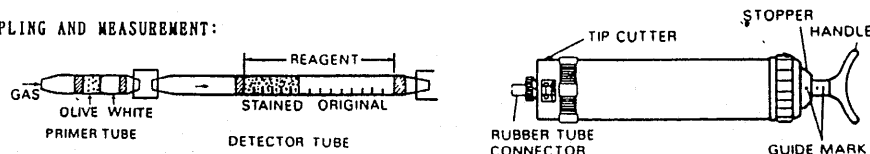

Fig. 1
- ① Break both ends of detector tube and primer tube, and connect each end of the detector tube and primer tube with rubber tube as shown in Fig.1.
- ② Insert the detector tube into aspirating pump securely as shown in Fig.1. (Arrow mark shall point to the pump.)
- ③ Align the guide marks on the shaft and stopper of the aspirating pump.
- ④ Pull pump handle to full stroke until it locks and wait for 2 minutes or until confirmation that sampling is completed (See descriptions of the flow indicator in the pump instructions).